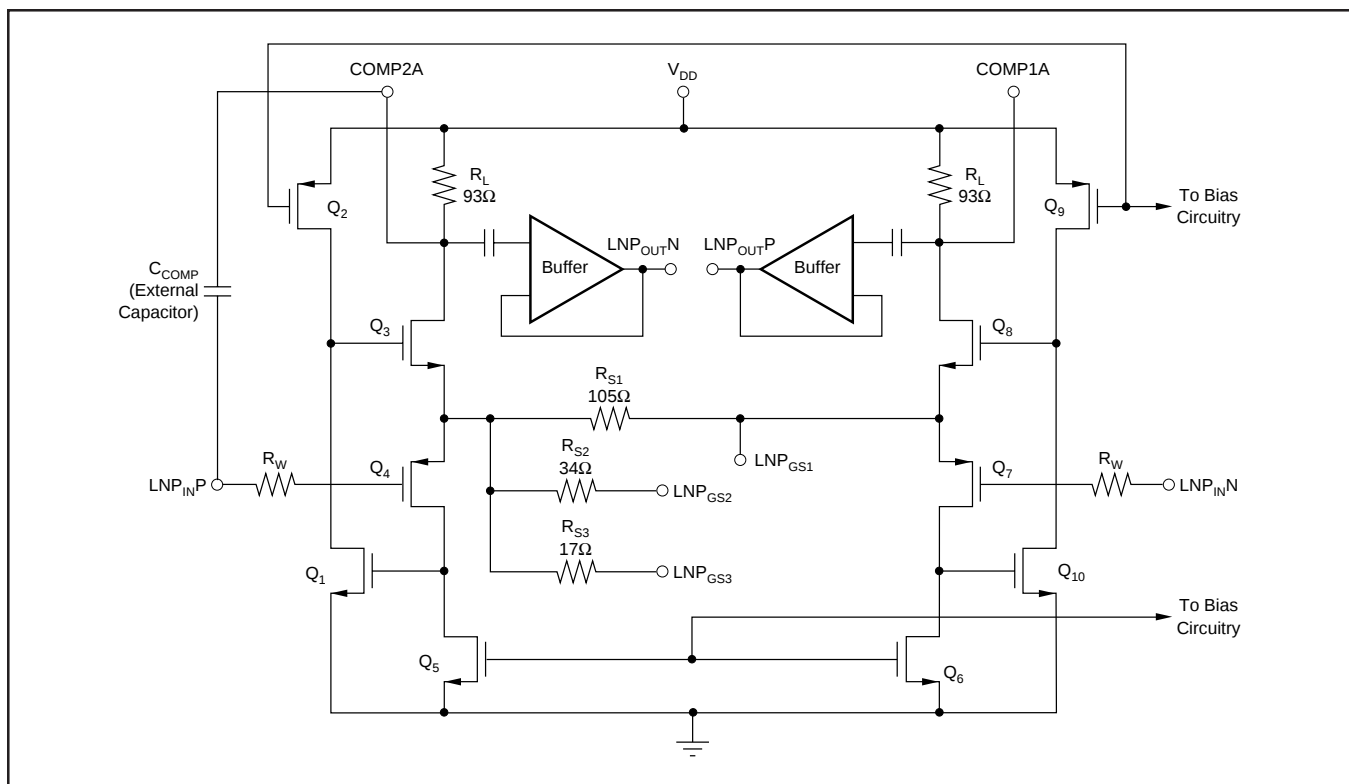

FIGURE 4. Schematic of the Low Noise Preamplifier (LNP).
The LNP is designed to achieve a low noise figure, especially when employing active termination. Figure 4 is a simplified schematic of the LNP, illustrating the differential input and output capability. The input stage employs low resistance local feedback to achieve stable low noise, low distortion performance with very high input impedance. Normally, low noise circuits exhibit high power consumption due to the large bias currents required in both input and output stages. The LNP uses a patented technique that combines the input and output stages such that they share the same bias current. Transistors Q_4 and Q_5 amplify the signal at the gate-source input of Q_4 , the +IN side of the LNP. The signal is further amplified by the Q_1 and Q_2 stage, and then by the final Q_3 and R_L gain stage, which uses the same bias current as the input devices Q_4 and Q_5 . Devices Q_6 through Q_{10} play the same role for signals on the -IN side.
It is also possible to create other gain settings by connecting an external resistor between LNPG_{S1} on one side, and LNPG_{S2} and/or LNPG_{S3} on the other. In that case, the internal resistor values shown in Figure 4 should be combined with the external resistor to calculate the effective value of R_S for use in Equation (1). The resulting expression for external resistor value is given in Equation (2).
where R_{EXT} is the externally selected resistor value needed to achieve the desired gain setting, R_{S1} is the fixed parallel resistor in Figure 4, and R_{FIX} is the effective fixed value of the remaining internal resistors: R_{S2} , R_{S3} , or $(R_{S2} \parallel R_{S3})$ depending on the pin connections.
For greatest flexibility and lowest noise, the user may wish to shape the frequency response of the LNP. The COMP1 and COMP2 pins for each channel (pins 10 and 11 for channel A, pins 26 and 27 for channel B) correspond to the drains of Q_3 and Q_8 in Figure 4. A capacitor placed between these pins will create a single-pole low-pass response, in which the effective R of the RC time constant is approximately 186Ω .